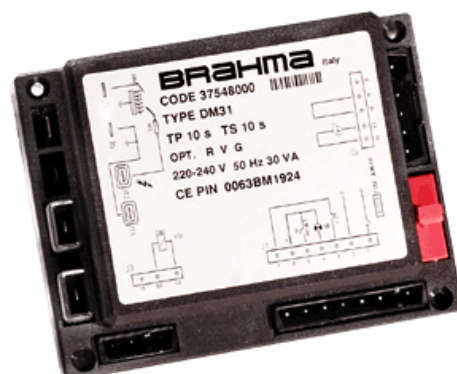

fig.3 – Brahma ignition board. Pt. no. UDSA0325322
16. Using a small electrical screwdriver, re-fit incoming cables to their terminals as noted down in step 3 and as shown in interconnecting wiring diagram (fig.3)